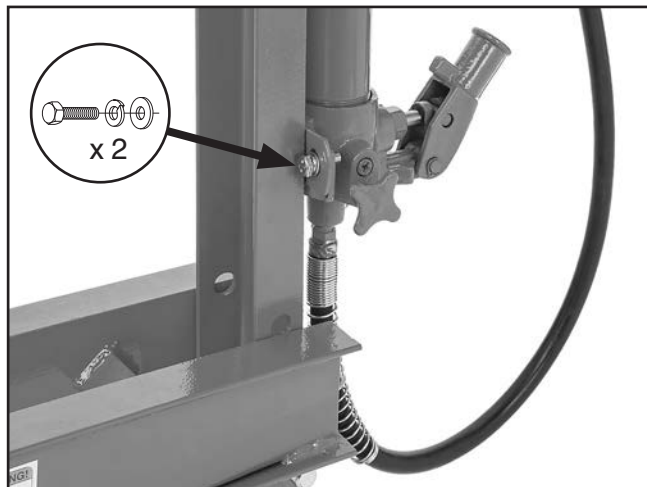

Figure 13. Hydraulic pump installed.
15. Attach the hydraulic pump to the lower pump bracket with the two M8-1.25 x 25 hex bolts, two 8mm flat washers and lock washers, as shown in **Figure 13**.